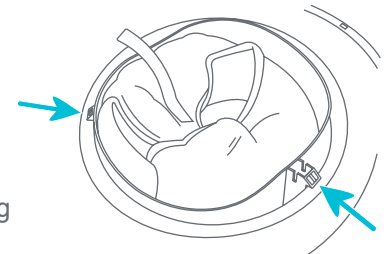

Fig. 3a
- 3 • Push the tabs inward to detach the seat from the top plate before assembling (Fig. 3a).